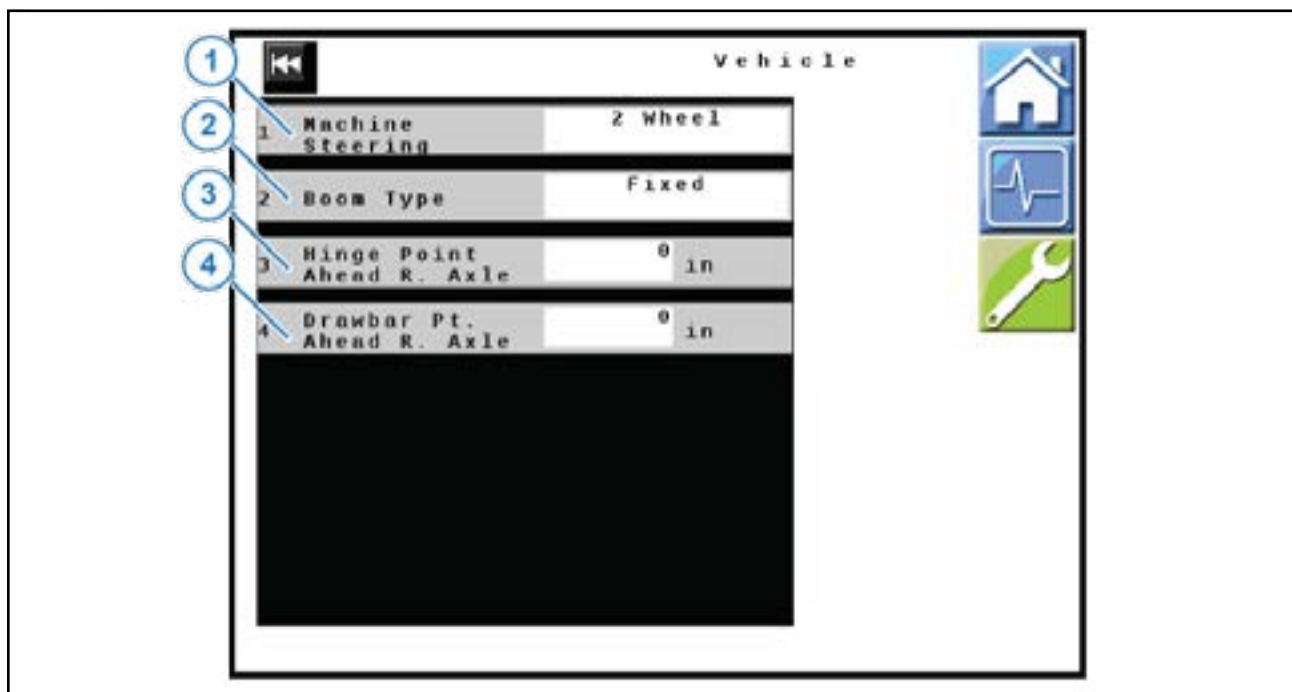

Figure 23: Vehicle Settings
2. Select the correct **Machine Steering** (Figure 23, Item 1) option for your machine:
3. Select correct **Boom Type** (Figure 23, Item 2) option for your machine:
5. Enter the correct **Drawbar Pt. Ahead R. Axle** measurement (Figure 23, Item 4) on the **Vehicle** screen as a (-) negative value. The remaining values will be entered on the **Implement** screen.